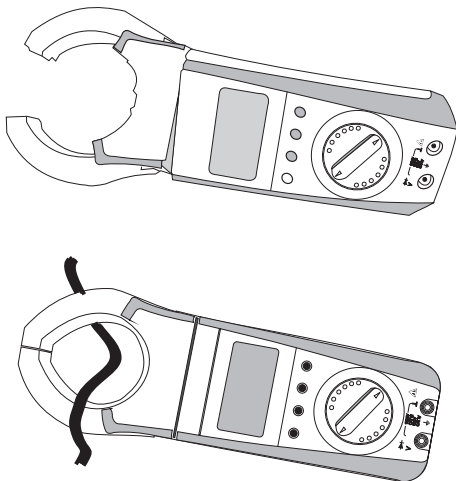

Figure 9.1
- ☛ Connect the Clamp as shown in figure 9.1 for current measurement. To measure current through cable push the trigger (present at back) to open the jaws and clamp the jaws around the cable as shown in fig 9.1